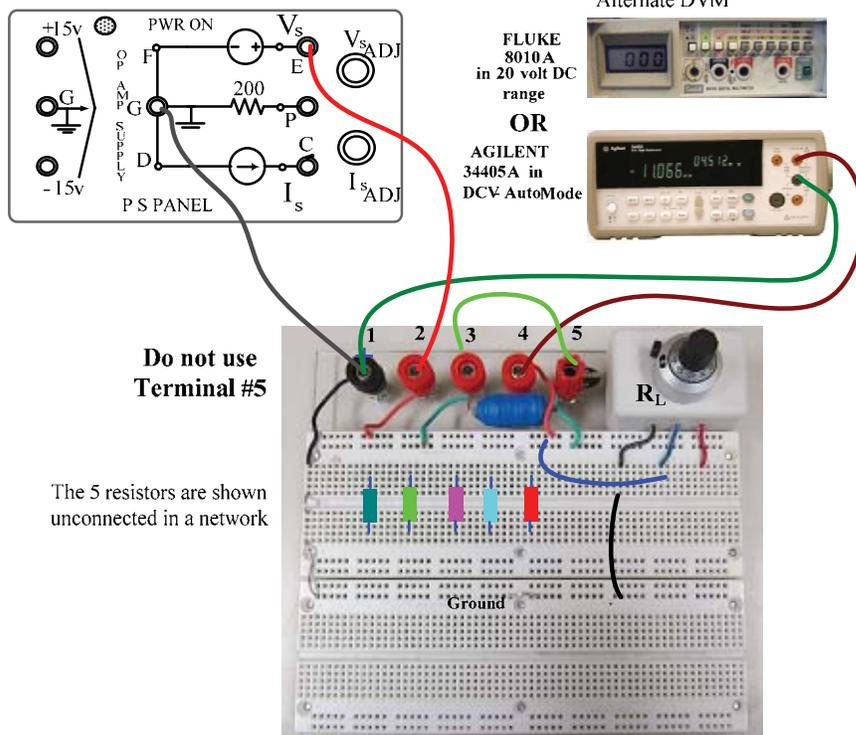

Figure 2.7: Setup for TEC/NEC/MPT verification
the space provided in the data table section, making sure to record the resistor values used. On the breadboard, first set the potentiometer dial to its maximum ($R \approx 600\Omega$) and then connect the breadboard to the PSP (still **not** turned on) as shown in Figure 2.7.
- 8 Double check your circuit connections on the breadboard and then turn on the PSP. Temporarily disconnect the breadboard link between terminal #4 and the ‘top’ end of the variable resistor load [ie remove the **blue** wire link shown on the breadboard in Figure 2.7] . Adjust V_s on the PSP to obtain a node voltage V_4 in the range of 2 to 7 volts and record it in the data table. This corresponds to the ‘open-circuit’ voltage $V_{ab}(oc) = V_{41}(oc) = V_T$. Then reconnect the aforementioned **blue** wire link.
9. Temporarily disconnect the V-input lead at the DMM, configure the DMM as a DC ammeter (DCI, Auto) and then insert the lead into the I-input terminal .The DMM will then measure the ‘short-circuit’ current $I_{41}(sc)$. Record the value of $I_{41}(sc) = I_N$.**Then reconnect** the DMM as a voltmeter , as in Figure 2.7